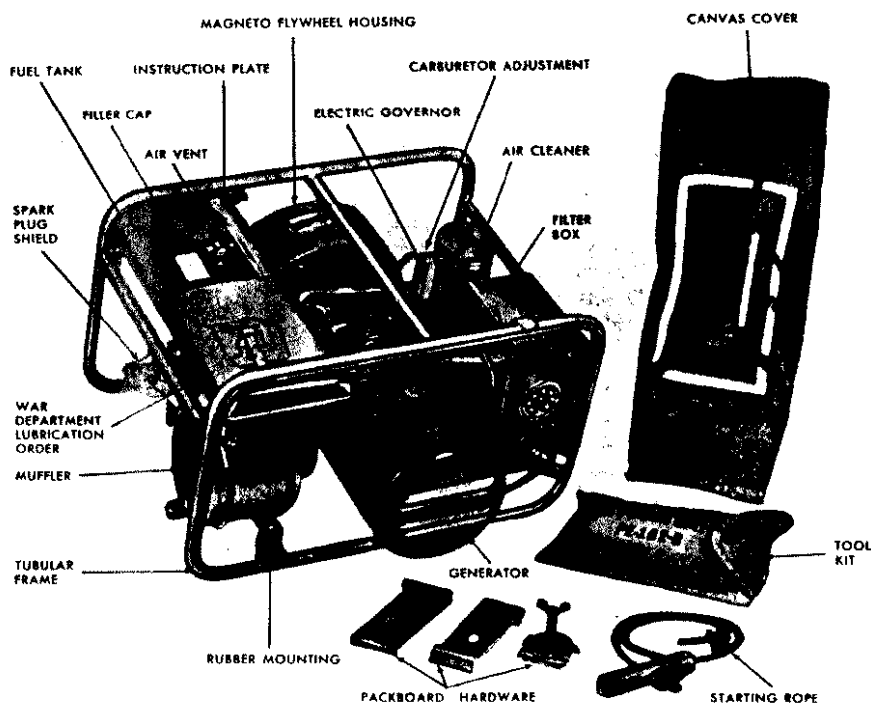

Figure 54. Power unit PE-162-B and equipment.
76. Power Unit PE-162-[*] (fig. 54)